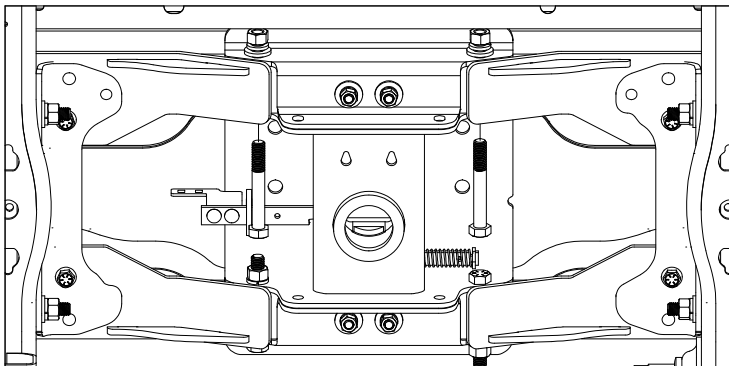

Figure D5: View looking up under the truck bed.
5. **Position center section.** Place two 5/8" x 4-1/2" cap screws into the two large holes in the rear of the center through the two rear cross members, as shown in Figure D5. Loosely secure the cap screws with a 5/8" flat washer, lock washer, and nut.